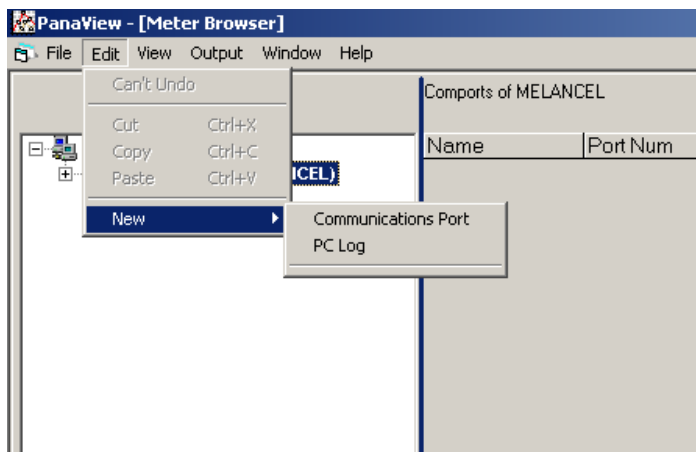

Figure 32: edit menu
4. Click on the *new* menu option to select it, and a submenu opens with two choices on it (see *Figure 32* below).